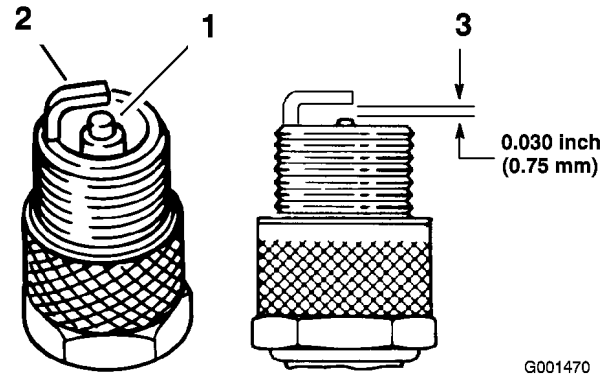

Figure 36
3. Check the condition of the side electrode, center electrode, and center electrode insulator to ensure that there is no damage (Figure 36).
4. Set the air gap between the center and side of the electrodes at 0.030 inch (0.762 mm) (Figure 36). Install the correctly gapped spark plug and tighten the plug to 14 ft-lb (20 N·m).